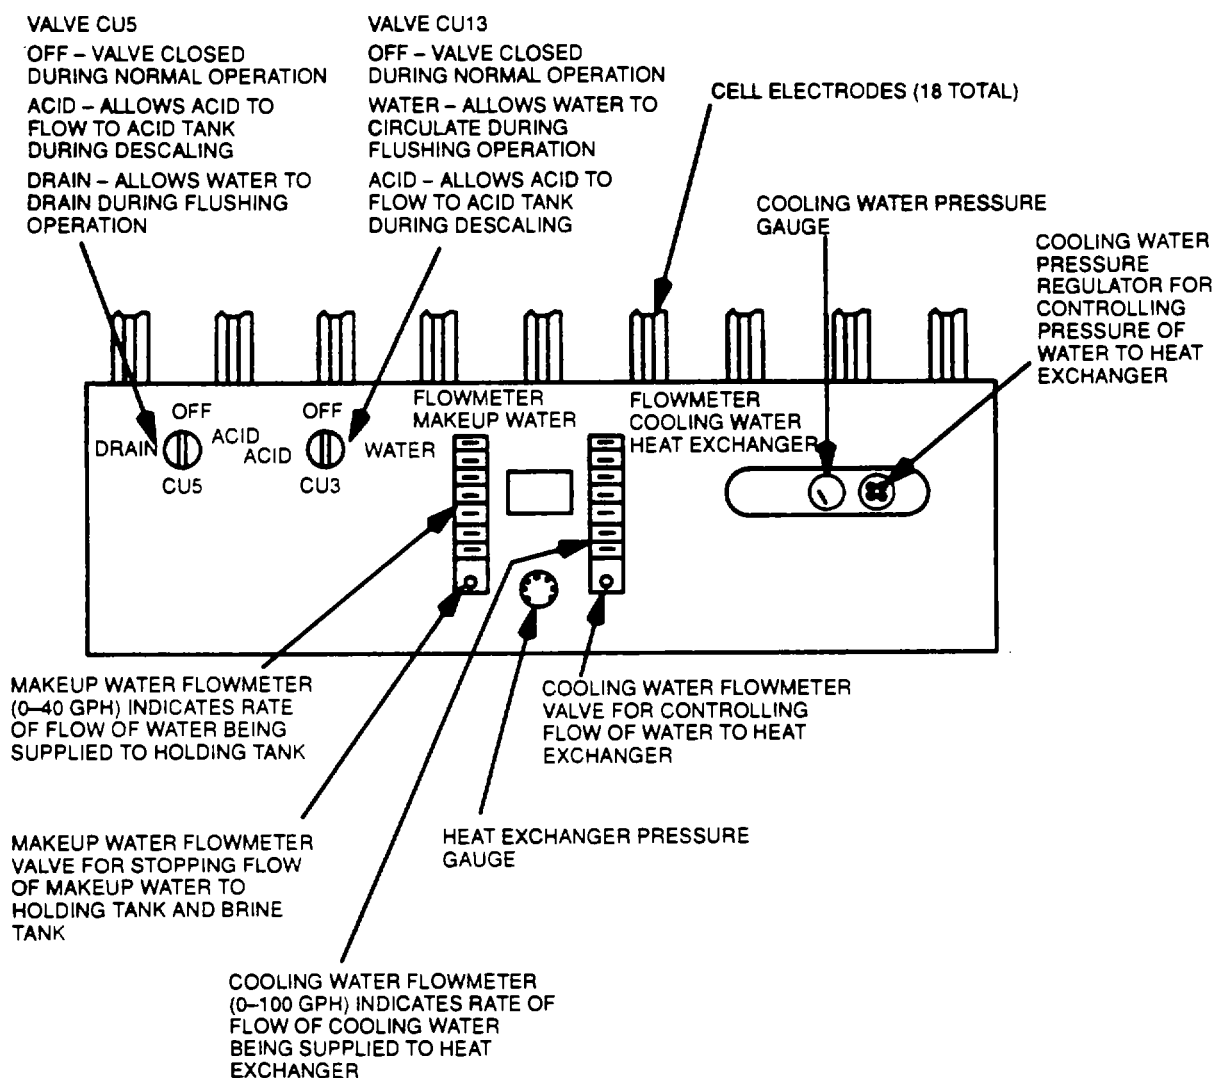

Figure 3-1. Chlorination Unit Controls and Indicators
- h. Adjust chlorination unit cooling water flowmeter and pressure regulator (Figure 3-1) to 80 gallons per hour (gph) at 10 psi.
- i. Set Chlorination unit makeup water flowmeter (Figure 3-1) to 36 gph.